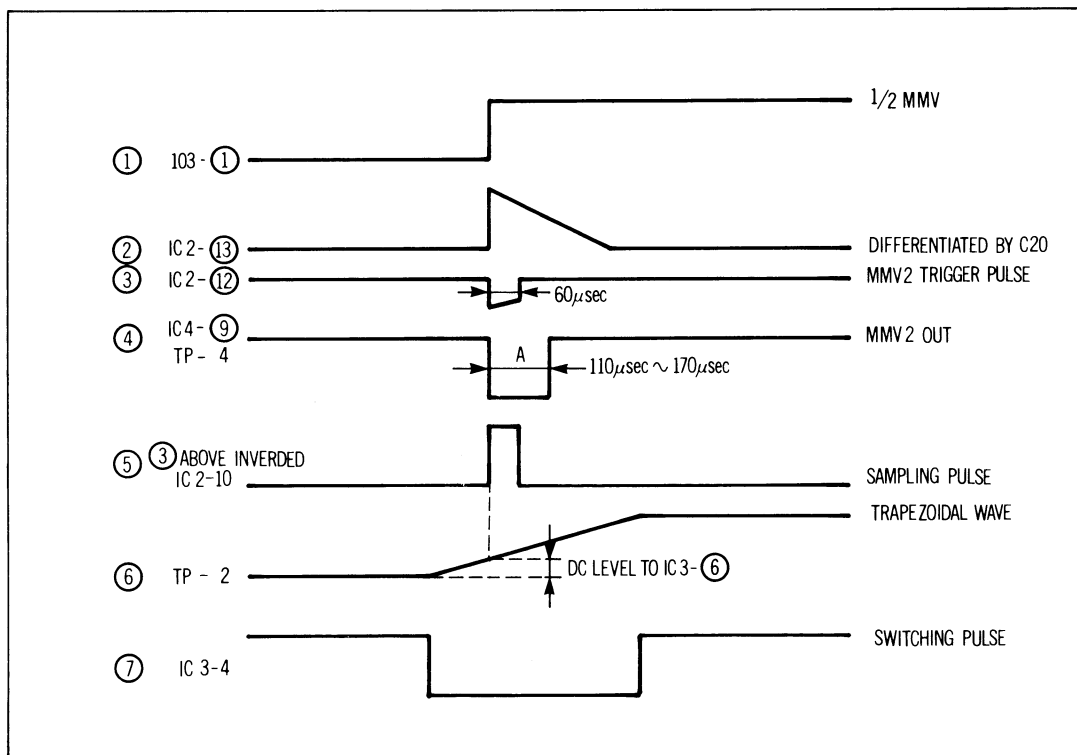

Figure 2-185
The 1/2 M.M.V. signal from P103-(1) is differentiated by C20, Figure 2-185 (2), and is inverted by IC2-(13) and (12), Figure 2-185 (3). Thus the negative pulse at IC2-(12) triggers M.M.V.2, whose duration is determined by C27, R41, R42 and the DC level from IC3-(8), Figure 2-185 (4). This DC level is made by sampling a trapezoid at Q10.
The head switching pulse, which indicates the relative position of the head drum or cylinder is made into a trapezoid by IC2, D18 and C25, with the ramp angle set by R6315, H phase, and R52. See Figure 2-185 (5), (6).
This ramp or trapezoid is buffered by IC3-(2,3,4) operating as an emitter follower. The differentiated servo reference, made from incoming V sync by the 1/2 M.M.V., is inverted by IC2-(10,11) to drive Q10, the sample switch. The D.C. level produced is held in C24 and is passed by D20 to IC3-(6,7,8), an emitter follower to drive M.M.V.2(IC9) as described above. See Figure 2-185 (6), (7).